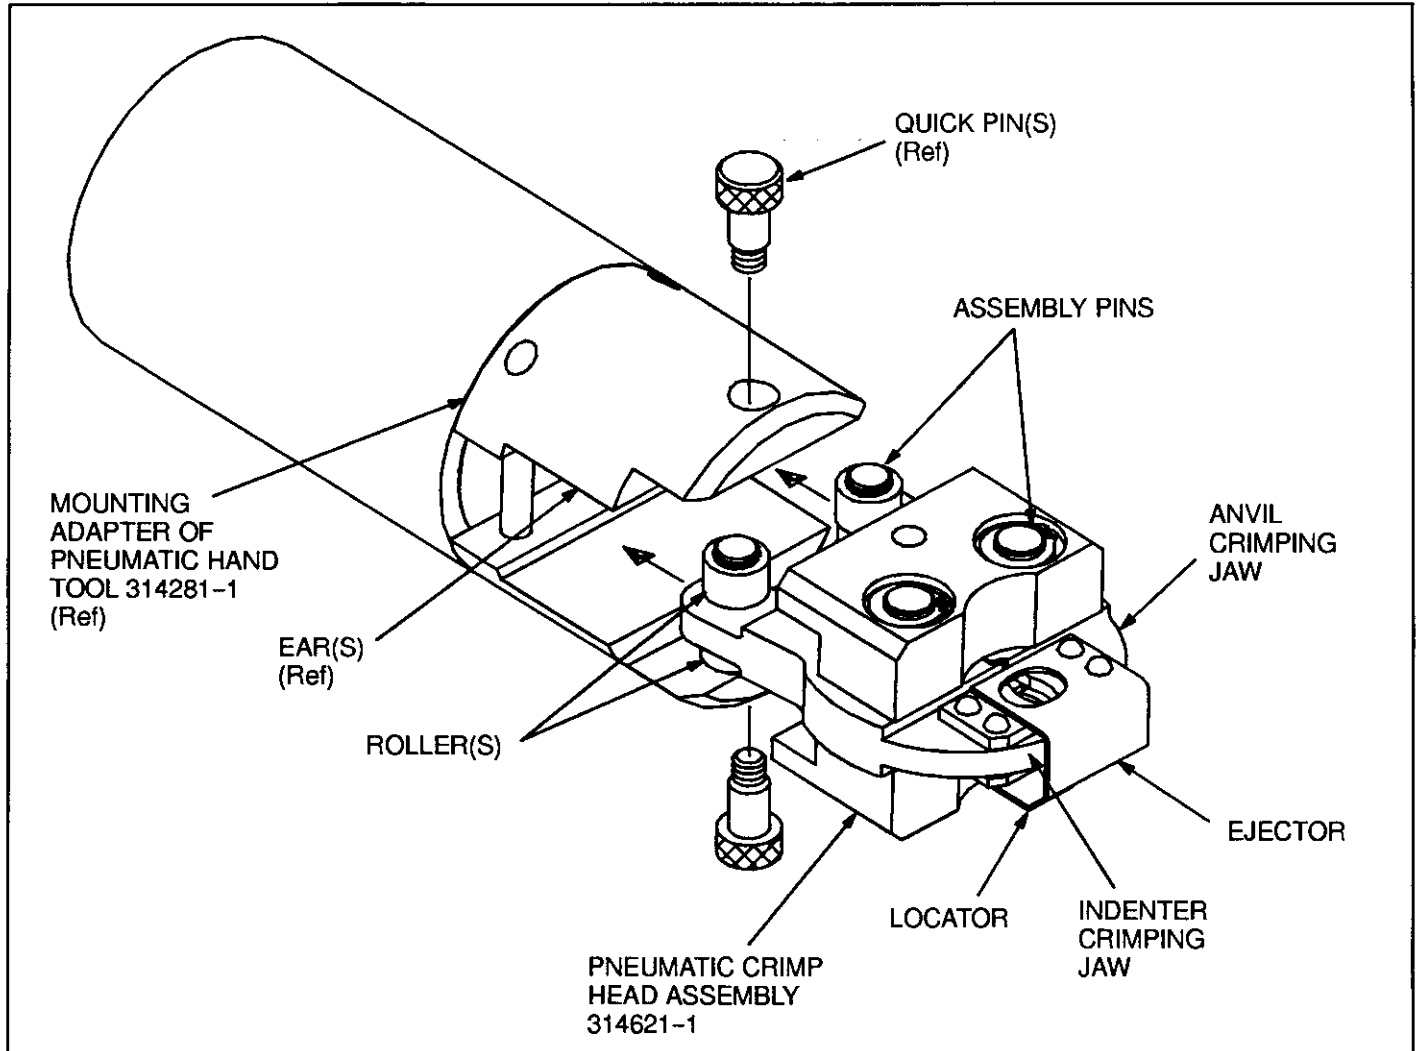

Fig. 1
2. DESCRIPTION (Figure 1)
3. CRIMP HEAD INSTALLATION AND REMOVAL (Figure 1)
1. Insert crimping head into the mounting adapter of the pneumatic tooling assembly. See Figure 1.